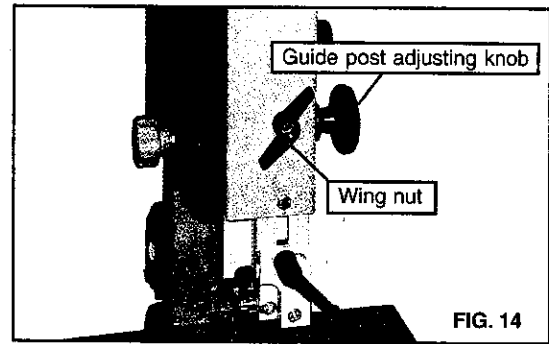

FIG. 14
- b. To adjust this height, loosen the wing nut at the side of the upper wheel housing. (See Fig. 14)